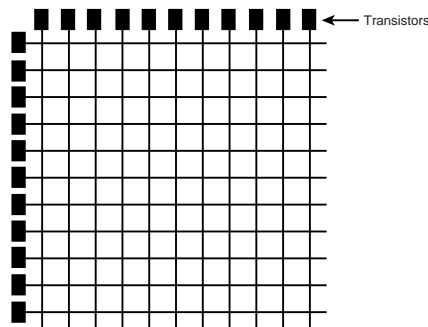

FIG. 20.2 Dual scan LCD displays use a combination of two transistors on intersecting axes to control the color of each pixel.
**Dual Scan Displays.** The *dual scan* display, sometimes called a *passive matrix* display, has an array of transistors running down the x- and y-axes of two sides of the screen. The number of transistors determines the screen's resolution. For example, a dual scan display with 640 transistors along the x-axis and 480 along the y creates a grid like that shown in Figure 20.2. Each pixel on the screen is controlled by the two transistors representing its coordinates on the x- and y-axes.